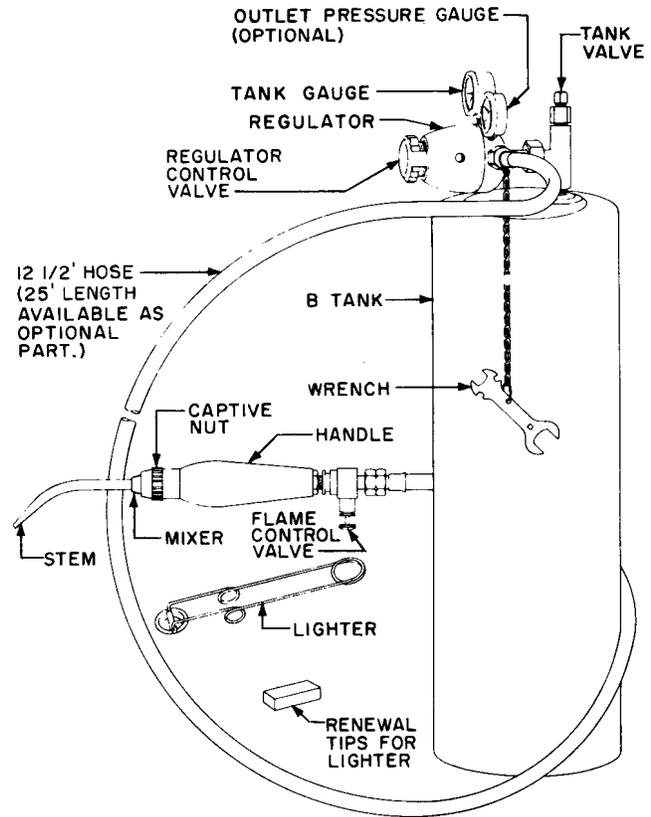

Fig. 5—D Acetylene Torch Connected to B Tank
9.03 The D acetylene torch, illustrated in Fig. 5, should be adjusted as follows: